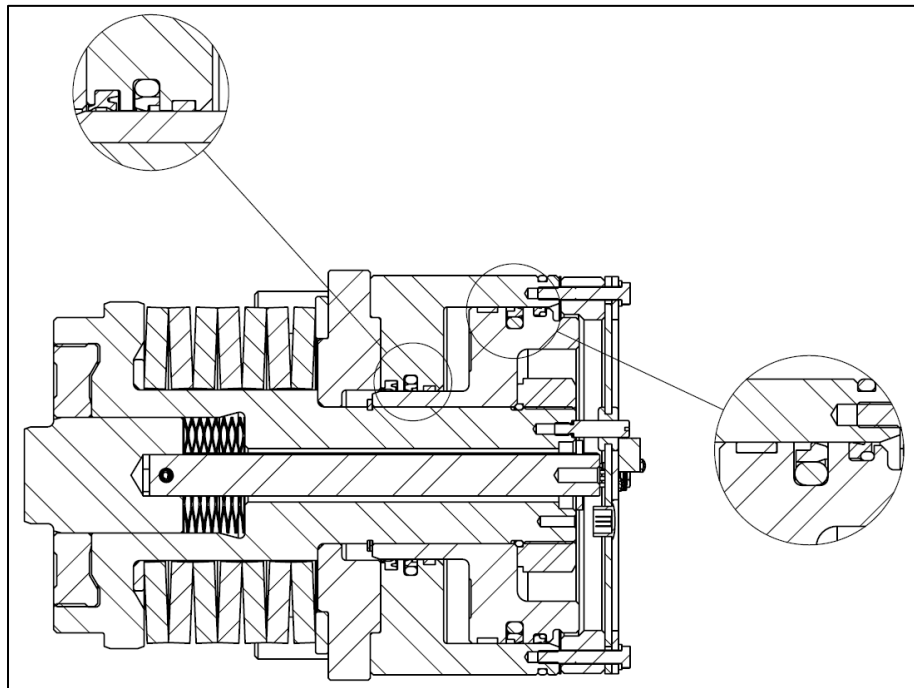

Figure 3-Seal Orientation
2. Inspect wear surfaces, seals, wear ring, and o-rings for damage and replace as necessary. Note to install seals in the correct orientation as shown in Figure 3.